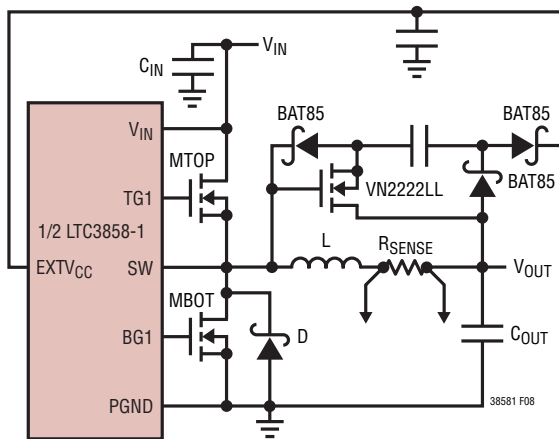

Figure 8. Capacitive Charge Pump for  $EXTV_{CC}$
4.  $EXTV_{CC}$  Connected to an Output-Derived Boost Network. For 3.3V and other low voltage regulators, efficiency gains can still be realized by connecting  $EXTV_{CC}$  to an output-derived voltage that has been boosted to greater than 4.7V. This can be done with the capacitive charge pump shown in Figure 8. Ensure that  $EXTV_{CC} < V_{IN}$ .